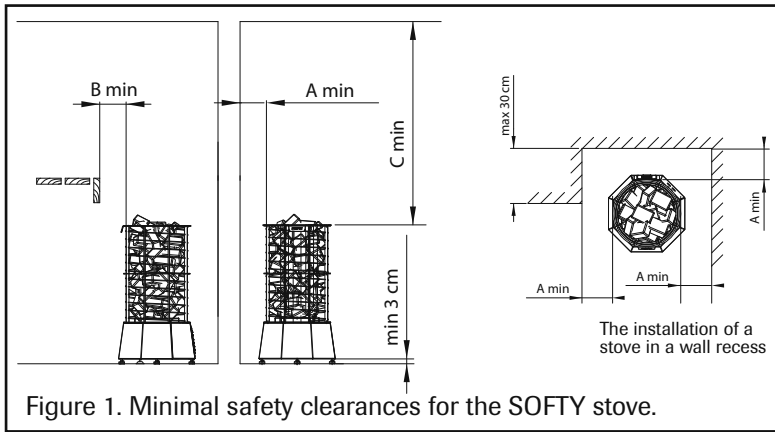

Figure 1. Minimal safety clearances for the SOFTY stove.
**) See figure 1
- The stove can also be installed into a wall recess, see figure 1.